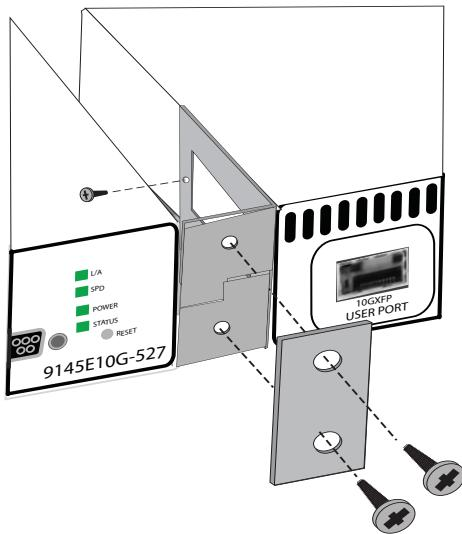
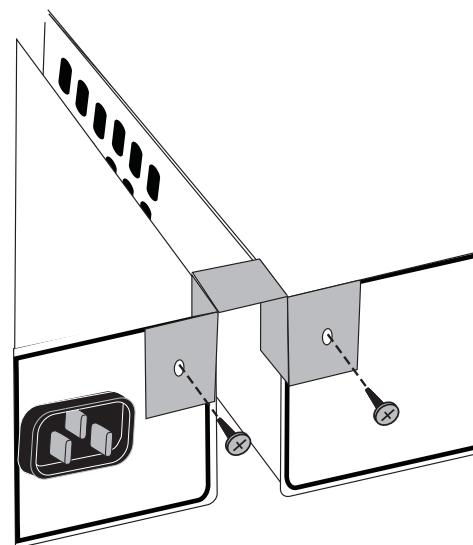

Figure 3-5. Install Center Brackets and Strap
Figure 3-6. Install Rear Center Bracket
1. Install the 19" Dual Unit or 23" Dual Unit Rack Mount Bracket Kit. The Rack Mount Kit includes two rack mount brackets, two center brackets, a strap, a rear bracket, and the screws required to attach the brackets to the 9145E10Gs. The mounting brackets attach to the two threaded holes on the outside of each 9145E10G, toward the front (see Figure 3-3). The two center brackets attach to the two threaded holes on the inside of each 9145E10G, and the strap mounts over the front of each center bracket (see Figure 3-5). The rear center bracket is attached to the threaded holes at the top inside corner of the back of each 9145E10G (see Figure 3-6).